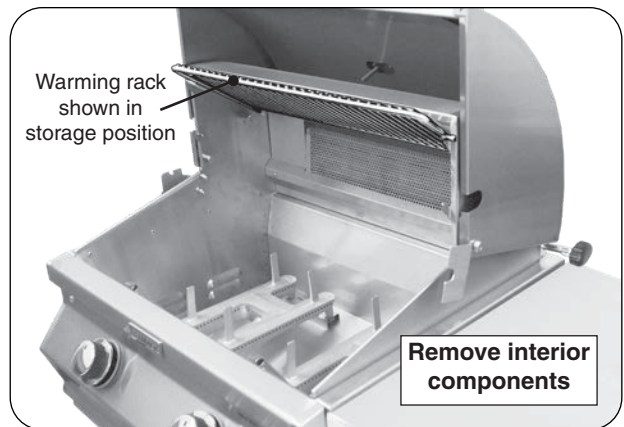

Fig. 30-1 Prepare grill for rotissing
1. Set the warming rack to storage position, remove the backburner cover and cooking grids (see Fig. 30-1).